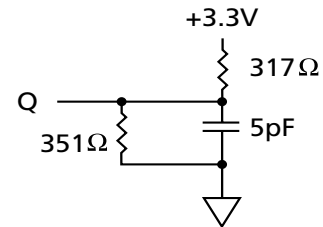

Figure 2
4. The load used for V_{OH}, V_{OL} testing is shown in Figure 2. AC load current is higher than the shown DC values. AC I/O curves are available upon request.
3. This parameter is measured with the output loading shown in Figure 2.